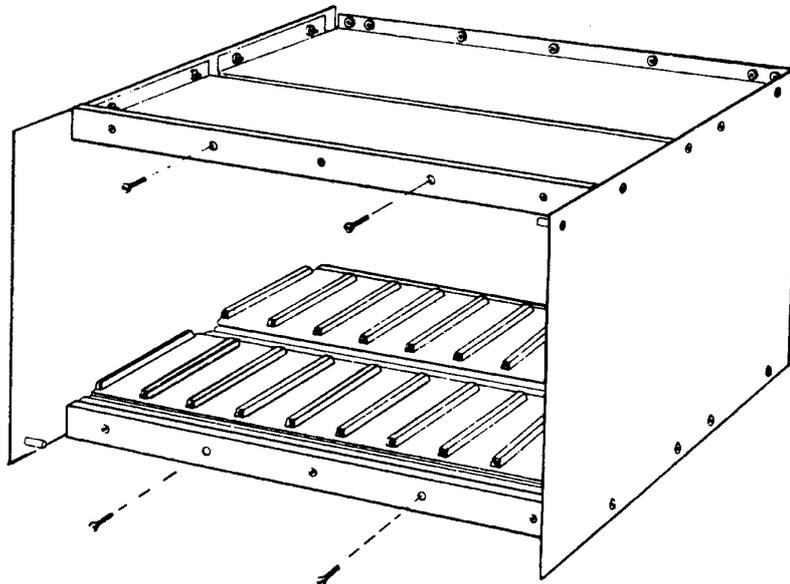

Figure 3.4 Fixing the rear trims on the IMP mounting frame.
Figure 3.4 Fixing the rear trims on the IMP mounting frame.....	3-7
- 3** To secure the plastic runners at the rear of the mounting frame, fix the two rear trims with M4 countersunk screws. (See Figure 3.4.)